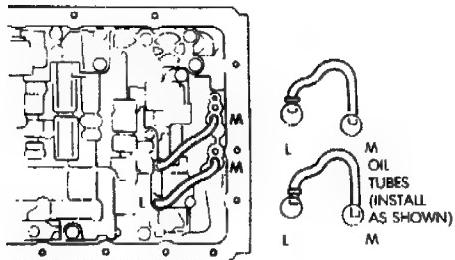

Fig. 62 Installing Valve Body Oil Tubes
(81) Install new O-ring on solenoid harness adapter and secure adapter to case.
(82) Install valve body oil tubes (Fig. 62). Tap tubes into place with a plastic mallet. Be sure the flanged tube ends and straight tube ends are installed as shown.